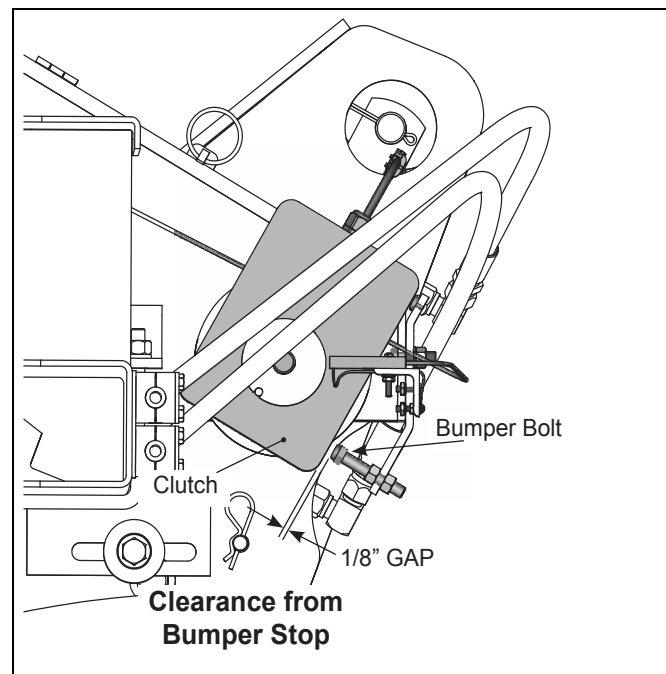

Figure 2-29: Clutch Clearance
5. Check that the clutch case has proper clearance between rubber bumper stop. Improper clearance may prevent the clutch from engaging or disengaging. See Figure 2-29.